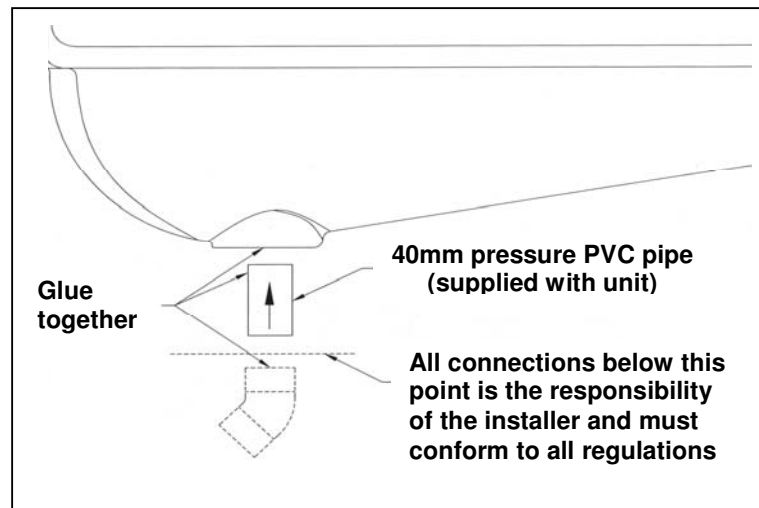

Fig 8 Drain water connection
3.2.3 Drain Water Connection (see fig 8)